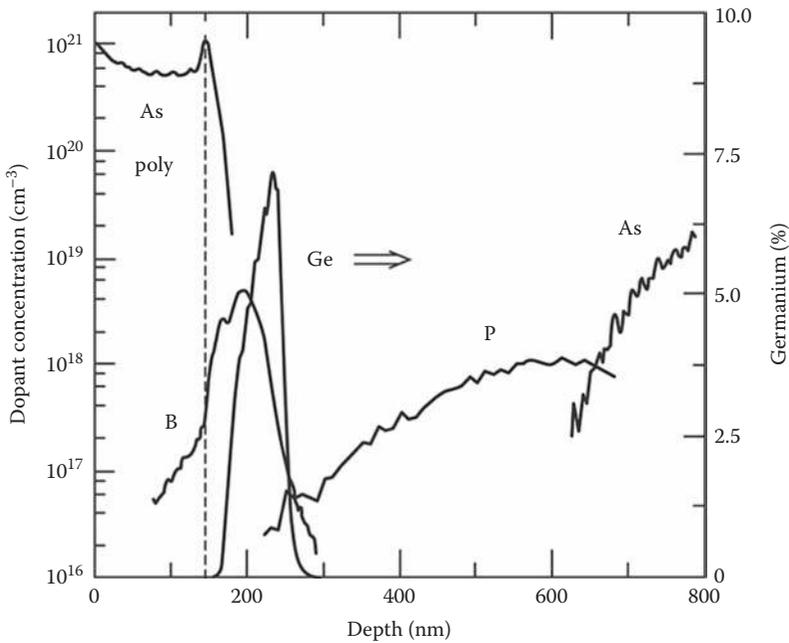

FIGURE 7.31
With ion implantation and RTP at our disposal, the precision with which doping profiles can be engineered in modern transistor design is quite remarkable. Figure 7.31 shows a typical doping profile $[N(x)]$ of a high-speed transistor. This device has arsenic (As) n -type doping, boron (B) p -type doping, and phosphorus (P) n -type doping, varying in concentration from about $1 \times 10^{16} \text{ cm}^{-3}$ to $1 \times 10^{21} \text{ cm}^{-3}$, all over a distance of about 800 nm ($< 0.1 \mu\text{m}$, 0.1 millionths of a meter)! [This bandgap-engineered transistor also uses SiGe epi embedded inside the device for speed enhancement; hence the Ge(x) region is also shown.]